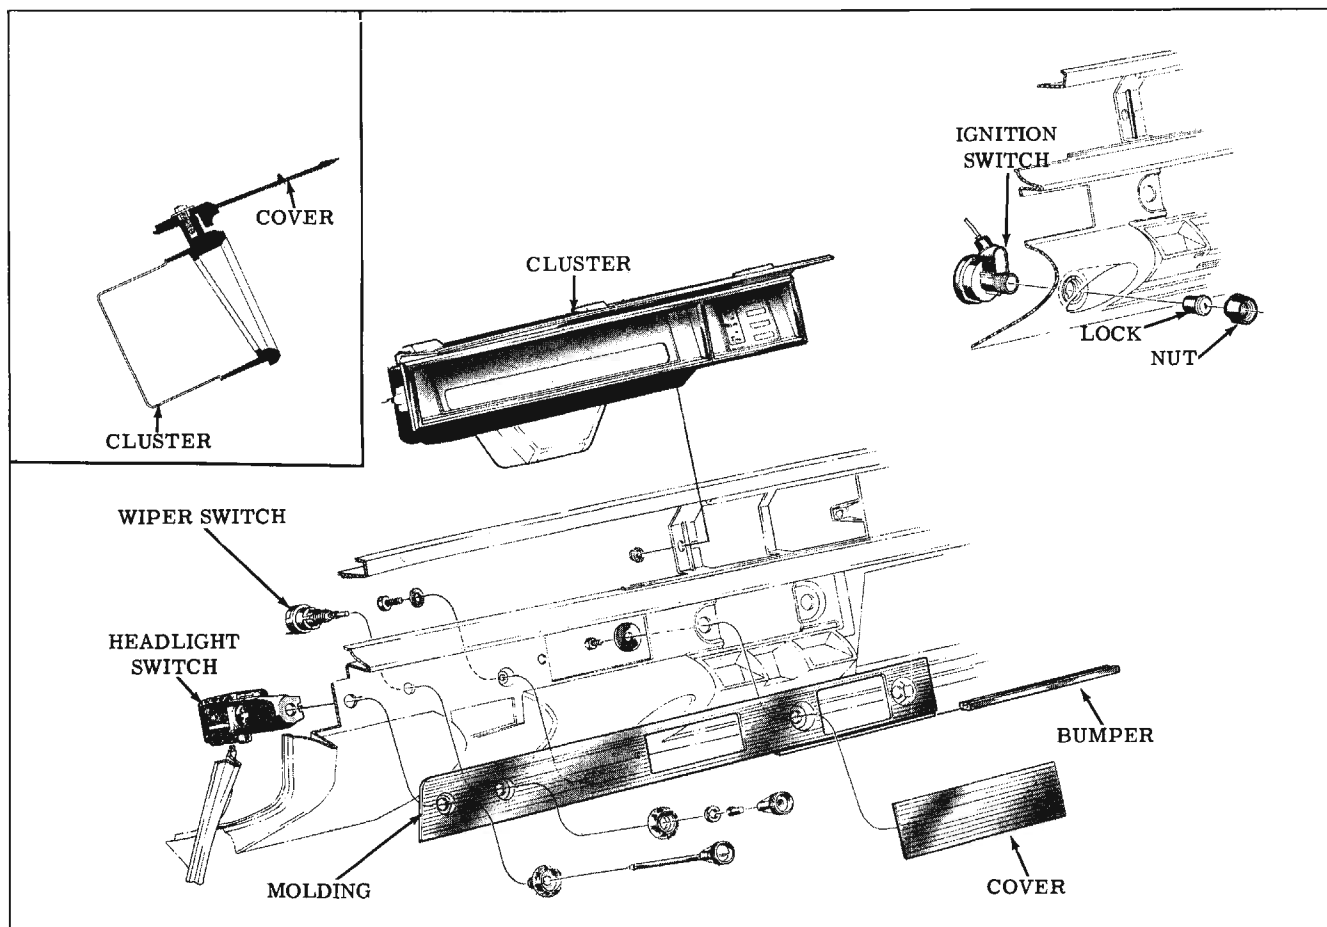

Fig. 13-4 Instrument Panel Components
3. Remove the two cluster to instrument panel attaching nuts from beneath the instrument panel. (Fig. 13-4)